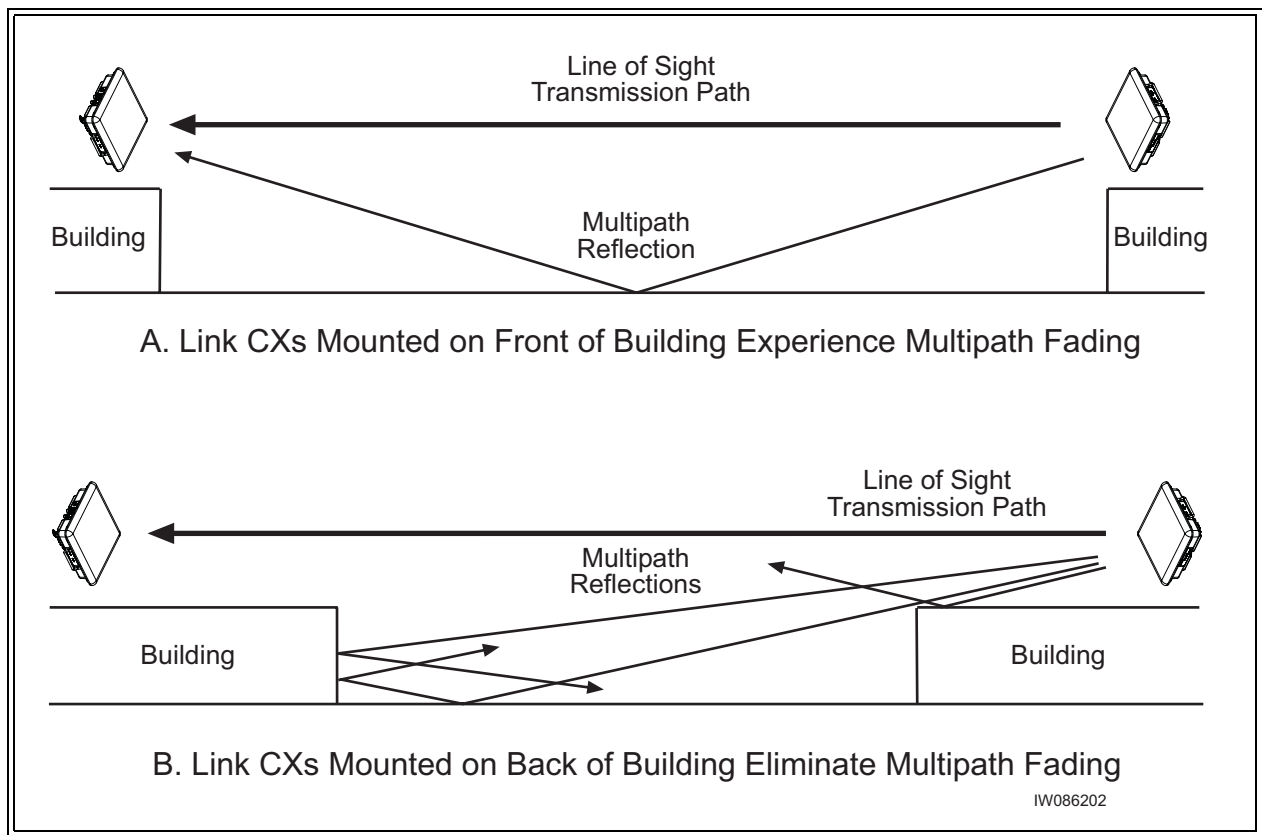

Figure 3-2 Preventing Multipath Fading from Ground-Level Surfaces
- **Multipath Fading:** See Figure 3-2. Because a Link CX terminal typically transmits its strongest signals in a cone-shaped pattern, some of the signal may be reflected from a nearby building, from water under the signal path, or from other RF reflectors. This reflected signal can then be received by the far-end Link CX and superimposed on the main signal, usually degrading the signal strength. To avoid multipath fading, interWAVE recommends that you install the Link CX antenna on the back, rather than the front, of buildings to avoid multipath fading from water or other ground-level surfaces, and that you plan radio links away from nearby buildings.